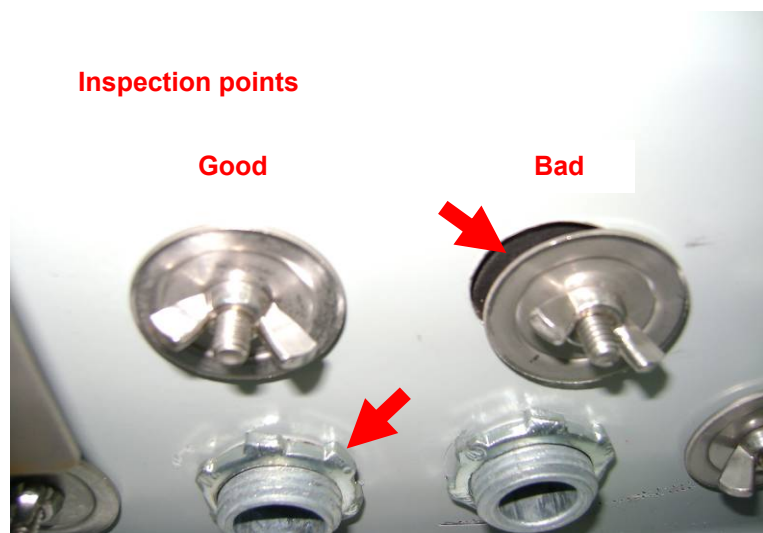

Figure 1
4. Inspect all hole-plugs to make sure that they are properly installed. Hole-plugs should be installed center point of hole on j-box to center point of hole-plug. If more than 1/4" deviation is noticed from center, re-install hole-plug to match center. See Figure 1 for a proper hole-plug installation and a improper hole-plug installation.